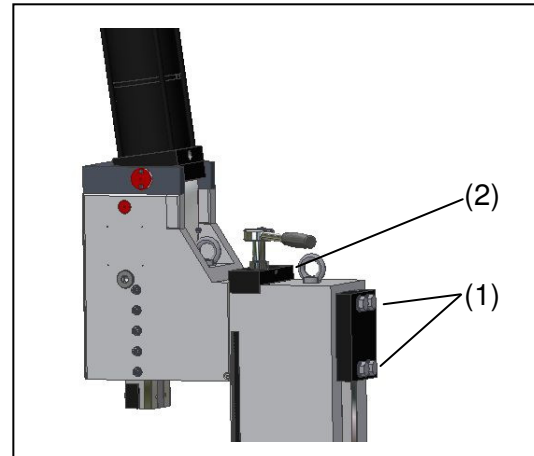

Fig. 8 Loosen clamping screws
- ▶ Remove the three or four clamping screws of the clamping of the guide unit (**Fig. 8**, Pos. 1) with a box wrench but do not completely remove.
- ▶ Loosen the clamping screw on the threaded spindle (**Fig. 8**, Pos. 2) with a hexagon socket wrench but do not completely remove.
- ▶ Tighten the clamping screws of the clamping of the guide unit (**Fig. 8**, Pos. 1) properly. Pay attention to the preset tightening torque (→ *page 29, Tab. 7*) when doing so.
- ▶ Remove the thread play from the threaded spindle. Protect the threaded spindle with the clamping screw (**Fig. 8**, Pos. 2) against twist.